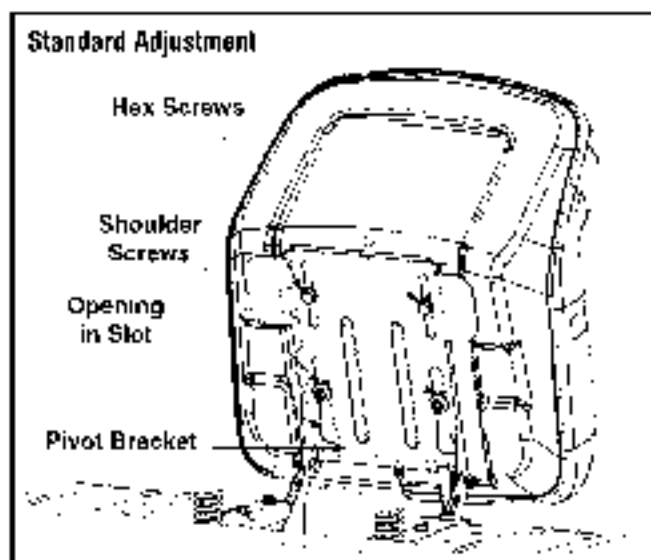
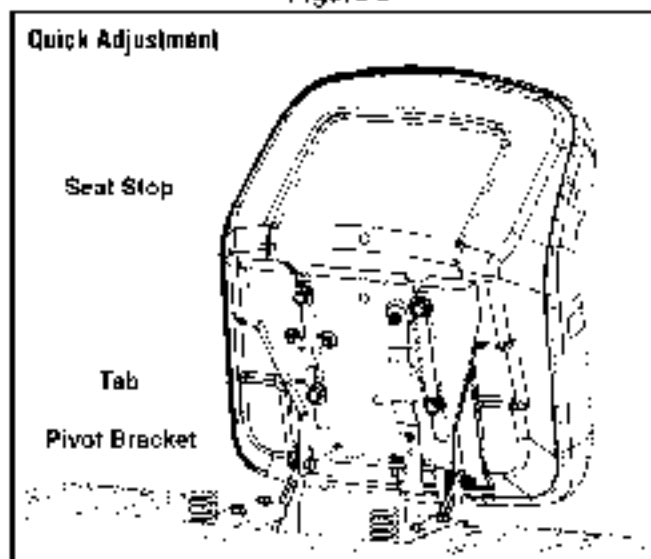
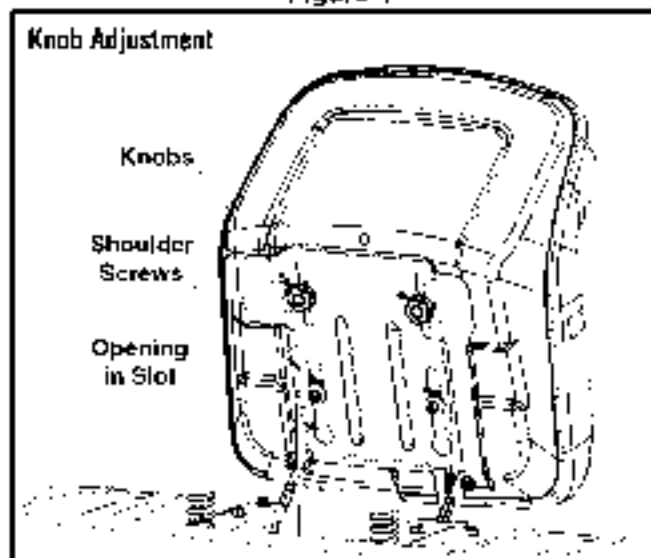

Figure 3
Figure 4
Figure 5
If the seat for your tractor did not come attached, refer to Figure 3, Figure 4 and Figure 5 to identify your tractor's seat style and follow the applicable instructions below to attach it.
- 1 Position the shoulder screws (found on the base of the seat) inside the slot openings in the seat pivot bracket. Figure 3.
- 3 Select desired position for the seat and secure with the two hex screws removed earlier. See Figure 3.
NOTE: If your seat was shipped mounted backwards on the seat pivot bracket, pull out the tab found on the seat stop and hold it open while sliding the seat off the seat pivot bracket. See Figure 4.
- 2 Slide seat in until front seat spacer engages the seat stop. See Figure 4.
- 1 Position the shoulder screws (found on the base of the seat) inside the slot openings in the seat pivot bracket. Figure 5.
- 3 Select desired position for the seat and secure with the two knobs removed earlier. See Figure 5.
NOTE: There are two different styles of steering wheel cap. See Figure 5. *Styles vary by model.*